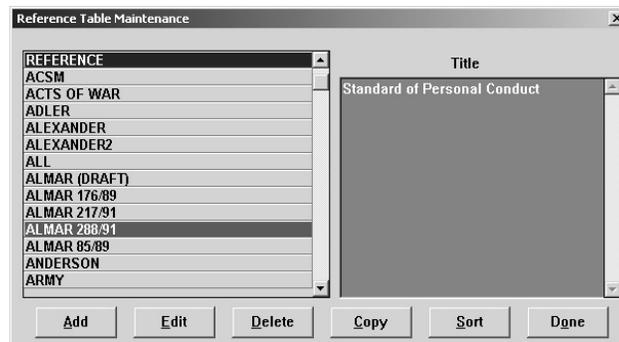
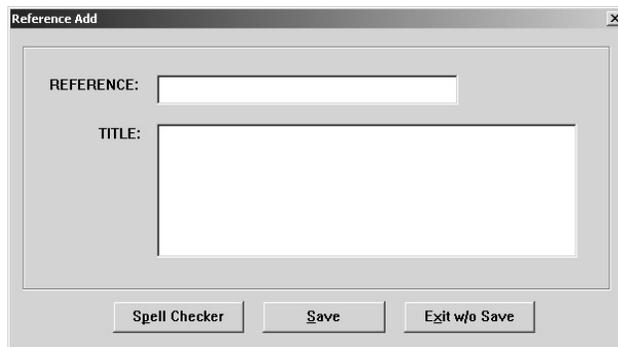
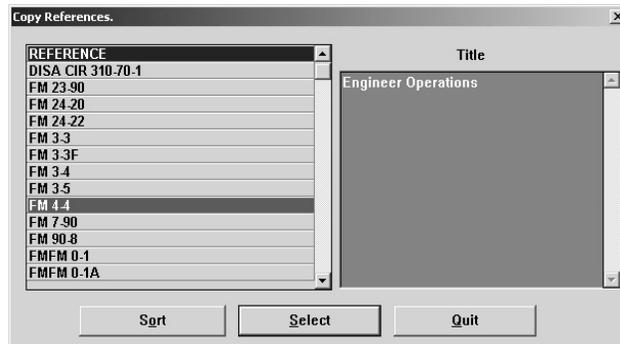

Figure 6-10. Reference Table Maintenance
Figure 6-11. Reference Add
Figure 6-12. Copy References
1. From the Tables drop-down menu, choose References. The Reference Table Maintenance selection list box (Figure 6-10) opens.
- From the Reference Table Maintenance selection list box (Figure 6-10), click on **Add**. The Reference Add dialog box (Figure 6-11) opens.
1. From the Reference Table Maintenance selection list box (Figure 6-10), highlight the desired record by clicking on it.
2. Click on **E**dit. A dialog box similar to the one in Figure 6-11 opens.
1. From the Reference Table Maintenance selection list box (Figure 6-10), mark the reference(s) you wish to delete using the multiple select feature.
1. From the Reference Table Maintenance selection list box (Figure 6-10), click on **Copy**. The Copy References selection list box (Figure 6-12) opens with a comprehensive list of all other references added to other courses on the same computer or server as your MCAIMS installation.
1. From the Reference Table Maintenance selection list box (Figure 6-10), click on **Sort**. The Sort References dialog box opens.